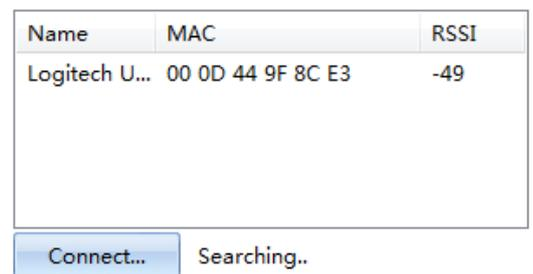

Figure 4.32 Select a Bluetooth Device Manually
(1) Search Pair: when the software begins to test, it will send an automatic search order to CRY574, which returns the searched device name, RSSI power value and MAC address of bluetooth device. When ticking “Device Name Pair”, the software will compare the searched device name. When the device name contains the set name, the device's MAC address is used for pair. When ticking “Pair by RSSI value”, the software will compared the searched devices’ RSSI Value. When the value exceeds the set RSSI lower limit, the device's MAC address will be used for pair. If both of them are ticked, then two conditions are needed to use MAC address for pair. Of course, if the set device name or RSSI lower limit is unreasonable, the user can also select a device manually for MAC pair. As shown in Figure 4.32, after selecting Logitech device, click the “Connect” button manually for pair.